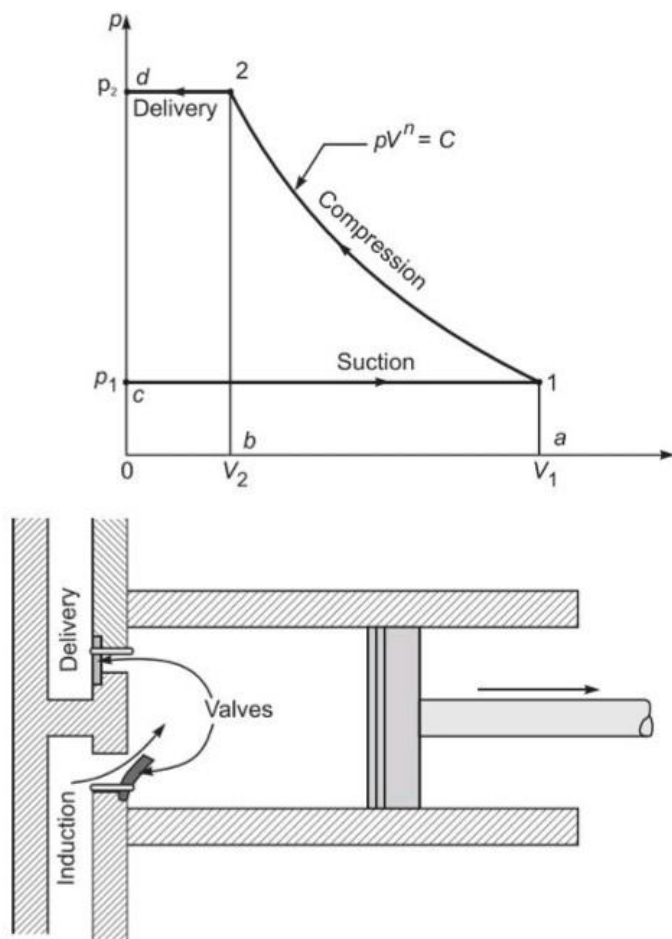

Fig. 25.4  $p$ - $V$  diagram for a reciprocating compressor without clearance
- The atmospheric air pushes the inlet valve to open and fresh air enters the cylinder as shown in Fig. 25.4. The line c-1 represents the induction stroke.
- Figure 25.4 shows the  $p - V$  diagram for are Reciprocating compressor without clearance.
The theoretical  $p - V$  diagram for single-stage, single-acting reciprocating air compressor without clearance is shown in Fig. 25.4.